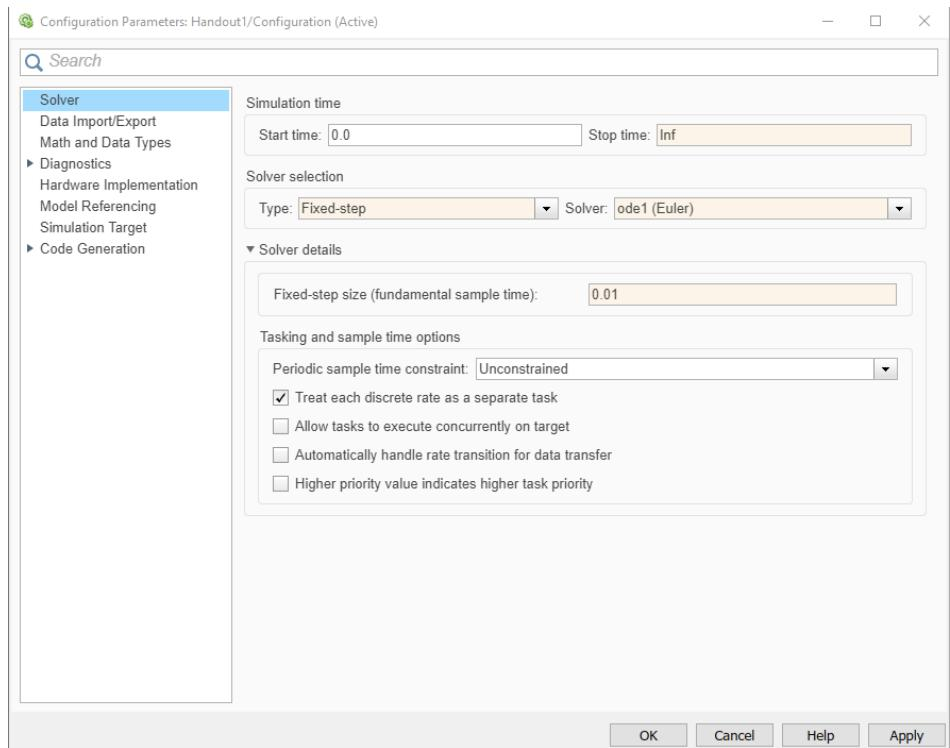

Figure 12: Solver settings.
8. Expand the *Solver details* dialog and set the fixed-step size to 0.01. See Figure 12.